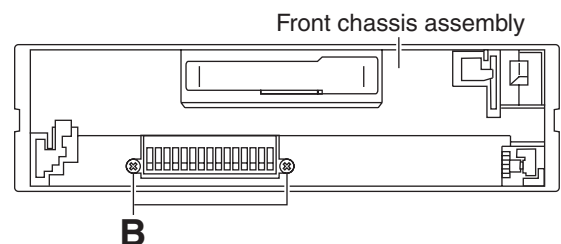

Fig.4
- (2) Remove the two screws **B** on the front side of the main body. (See Fig.4.)